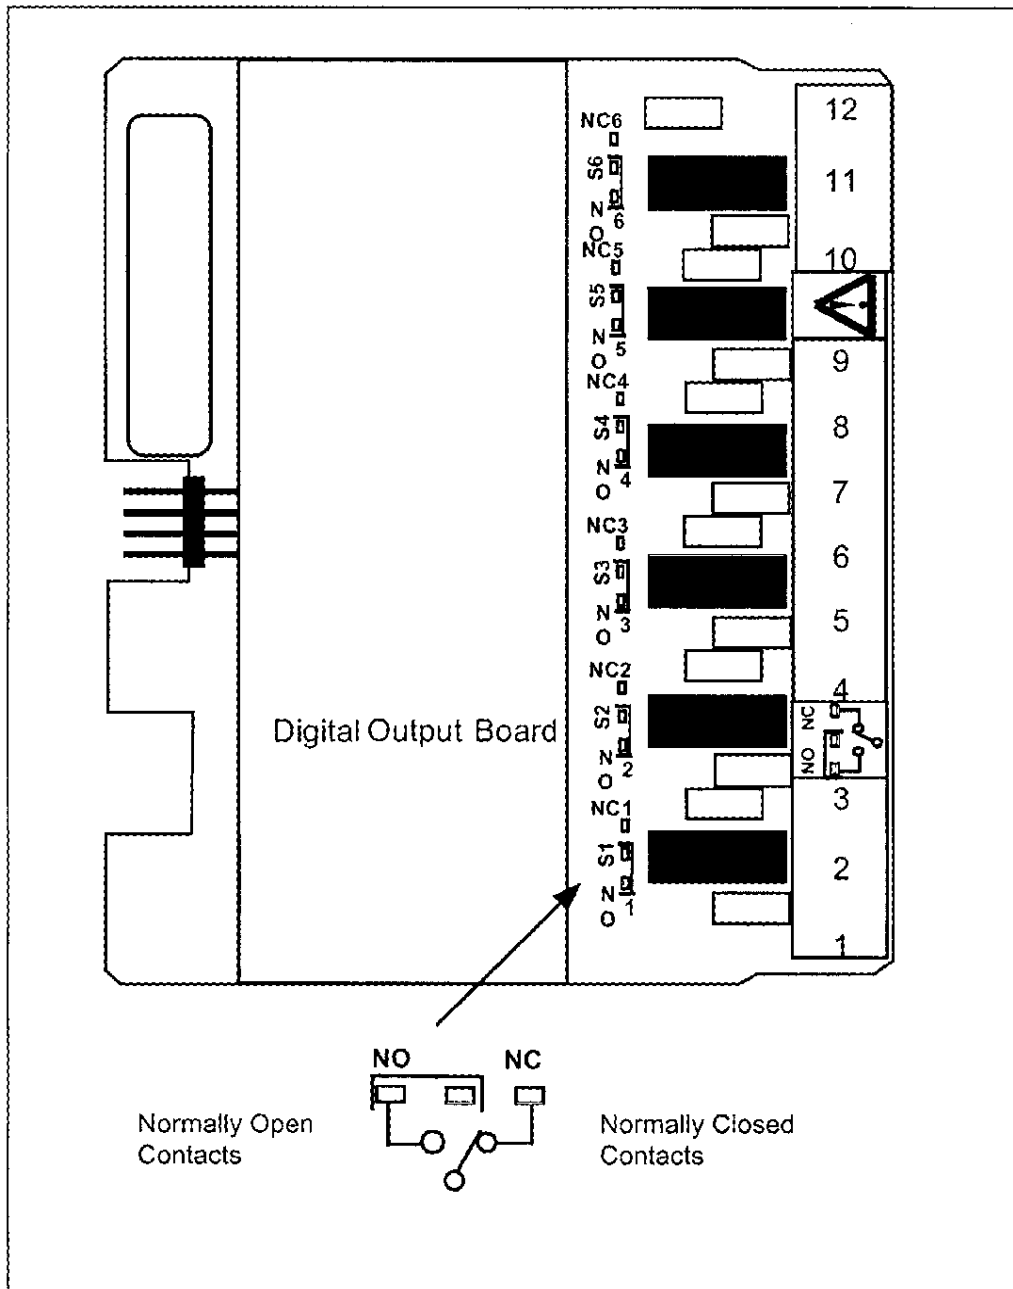

Figure 2-5 DO Board Relay Contact Setting
The Digital Output board with relay outputs contain jumpers to set the de-energized state of the relay contacts. The relays are factory set to normally open (NO) for each output on the relay alarm board, as shown in Figure 2-5.